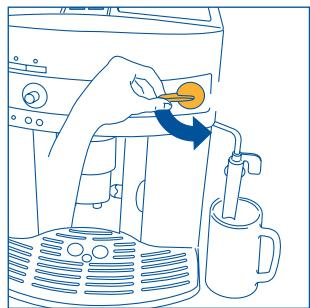

Fig.5
3. **IMMEDIATELY AFTER, WITHIN A MAXIMUM OF 30 SECONDS**, turn the steam knob counter-clockwise until it stops (Fig.5) (it is normal for the machine to make some noise).
- Turn the steam knob half a turn in counter-clockwise until it stops (Fig. 5): hot water will come out of the milk frother and start to fill the container underneath.